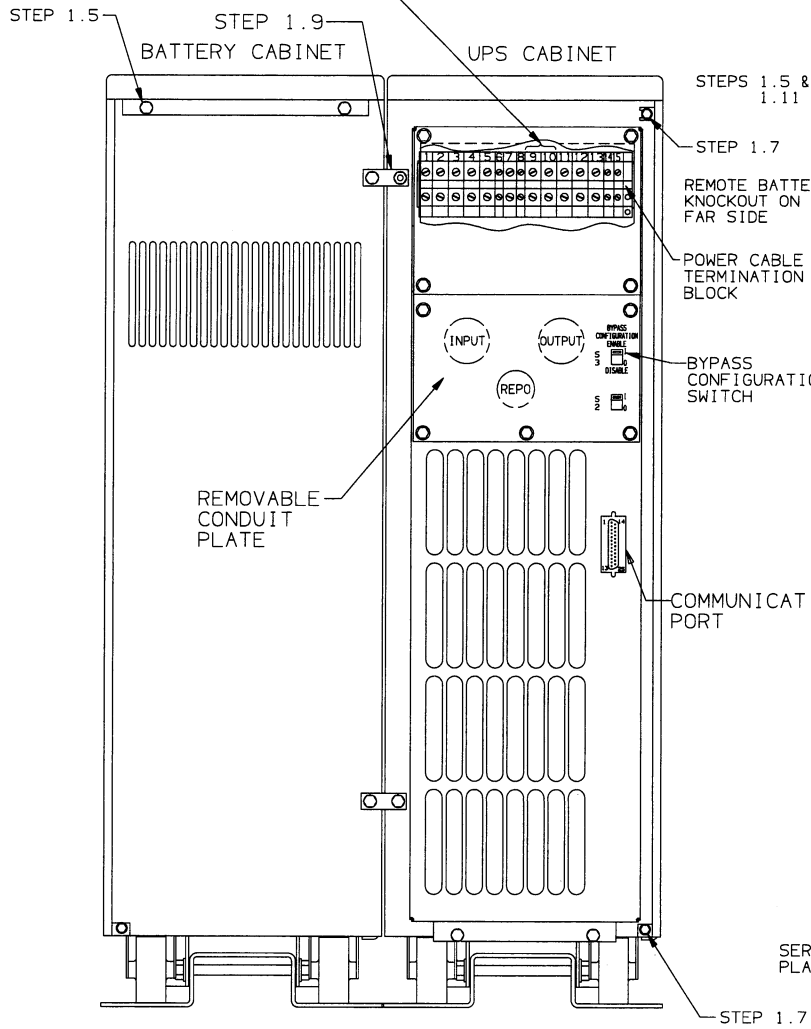

FIGURE 1
- 1.5 REMOVE THE TOP COVER OF BATTERY CABINET BY REMOVING THE (2) SCREWS LOCATED AT THE TOP REAR OF THE CABINET SHOWN IN FIGURE 1 AND RETAIN THE SCREWS. PULL THE TOP COVER TOWARD THE REAR OF THE UNIT TO RELEASE COVER LATCH AND LIFT THE COVER OFF OF THE CABINET.
- 1.7 REMOVE THE RIGHT SIDE COVER OF THE UPS CABINET BY REMOVING THE (4 EACH) MOUNTING SCREWS AS SHOWN ABOVE IN FIGURES 1&4. PULL THE SIDE COVER OUT FROM THE TOP AND THEN DOWN TO DETACH IT FROM THE SYSTEM. RETAIN THE SIDE COVERS AND MOUNTING HARDWARE.
- 1.9 JOIN THE CABINETS TOGETHER IN 4 PLACES AS SHOWN IN FIGURES 1,3 AND 5 USING THE HARDWARE PROVIDED IN THE JOINING KIT.